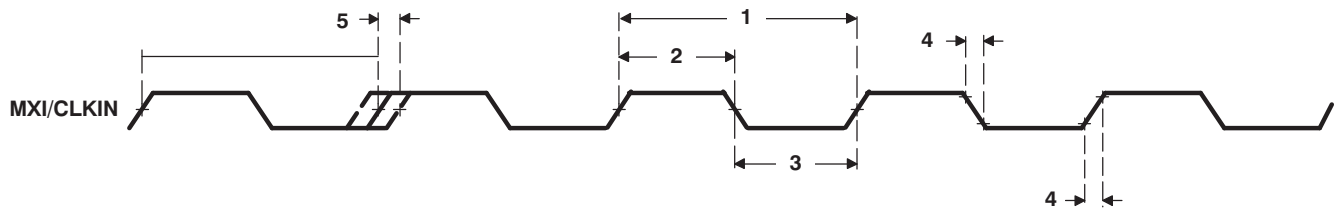

Figure 5-7. MXI1/CLKIN1 Timing
Table 5-5. Timing Requirements for MXI1/CLKIN1(1) (2) (see Figure 5-7)
Table 5-6. Timing Requirements for MXI2/CLKIN2(1) (2) (see Figure 5-7)